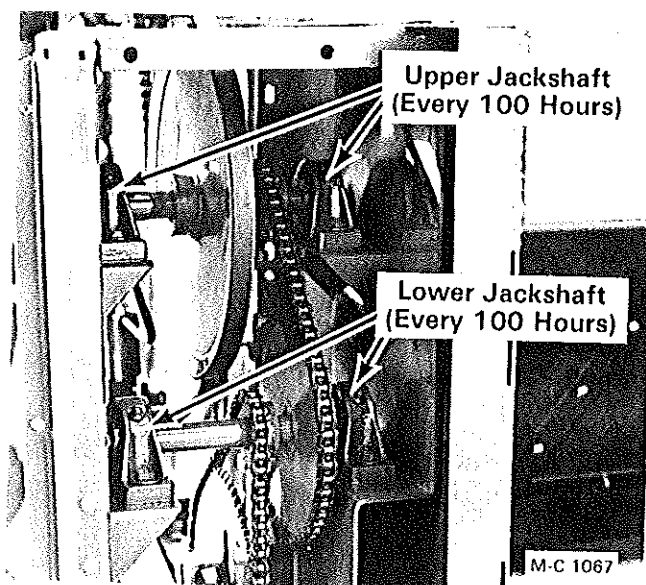

Figure 28
3. Lubricate the four bearings on the drive reduction base shafts, see Figure 28.